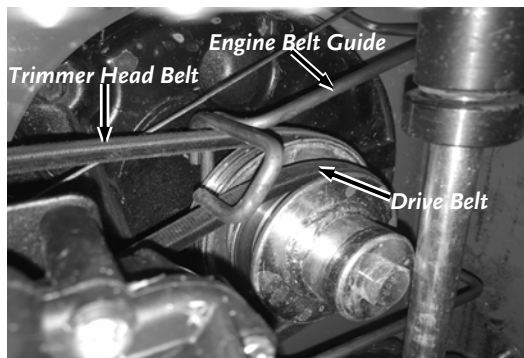

Figure 29a
**Note:** Ensure that the Belts are positioned properly in reference to the Belt Guides (**Figure 29a**).